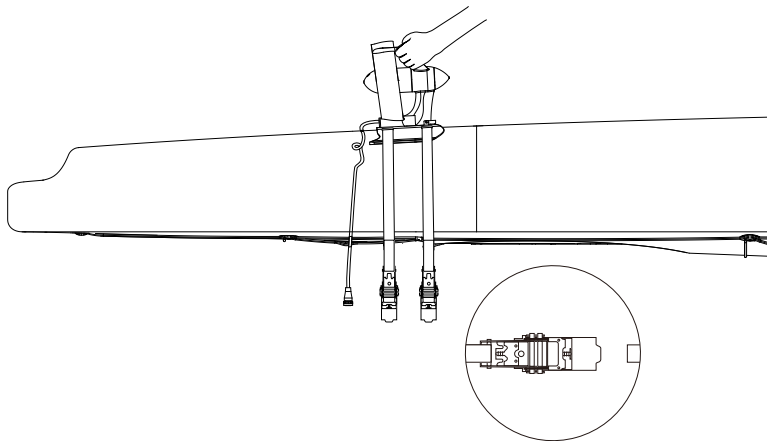

Figure 5-10
Step2: Detach VAQUITA universal adapter and VAQUITA Motor from the SUP board/kayak (Figure 5-10).